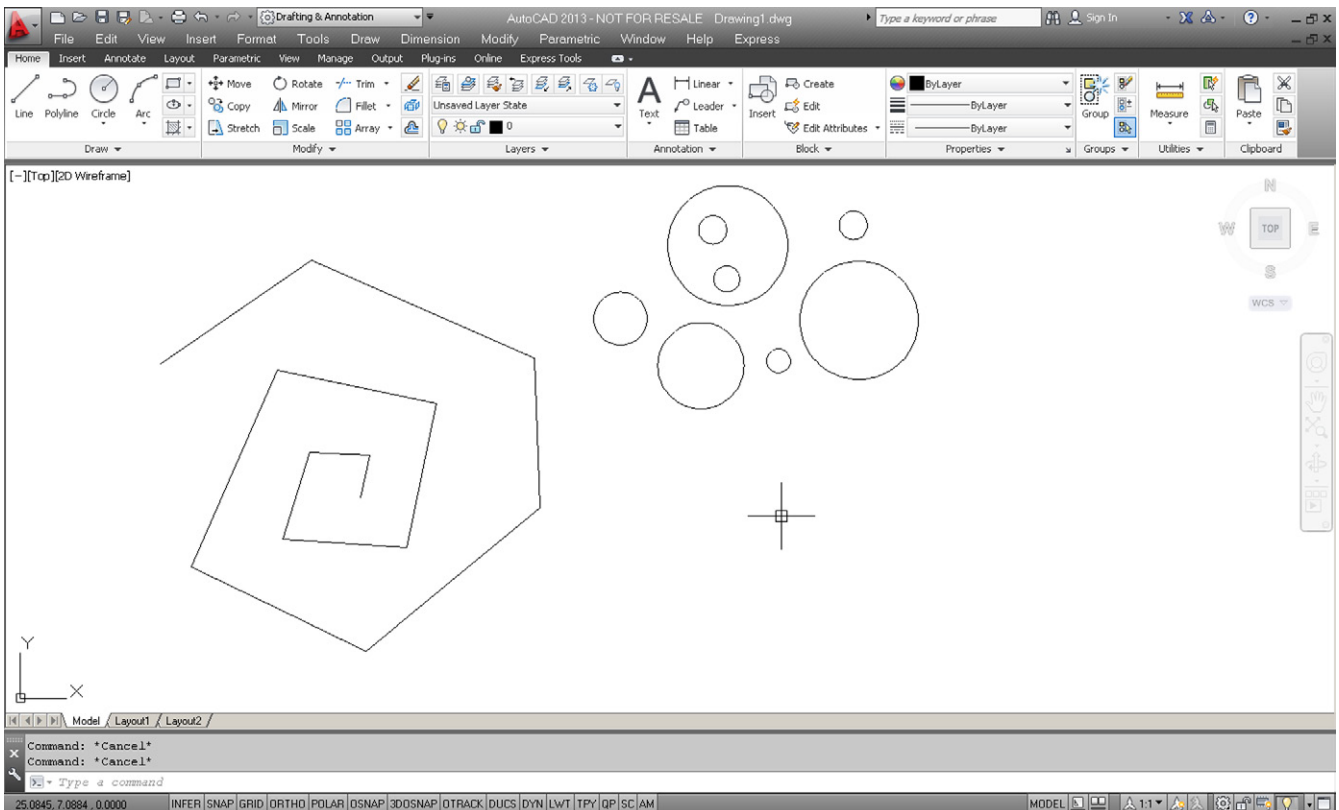

FIGURE 1.13
- Step 3.** Left-click to finish the circle command. Repeat Steps 1 through 3 several times, and your screen should look like Figure 1.13.